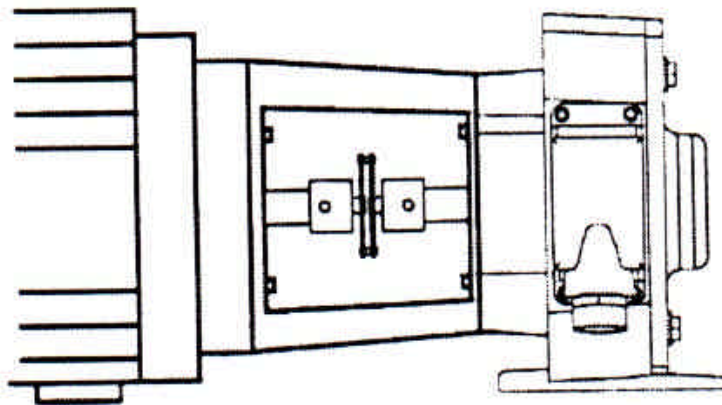

Figure 3: Model 6200 56 C Face/ Bracket Mounting
| Figure 3: Model 6200 56 C Bracket Mounting | 8 |
1. Mount the C-Face adapter bracket (not supplied) onto the motor per manufacture's instructions. See Figure 3. Be sure the 4.5 inch C-Face is concentric to the motor shaft.